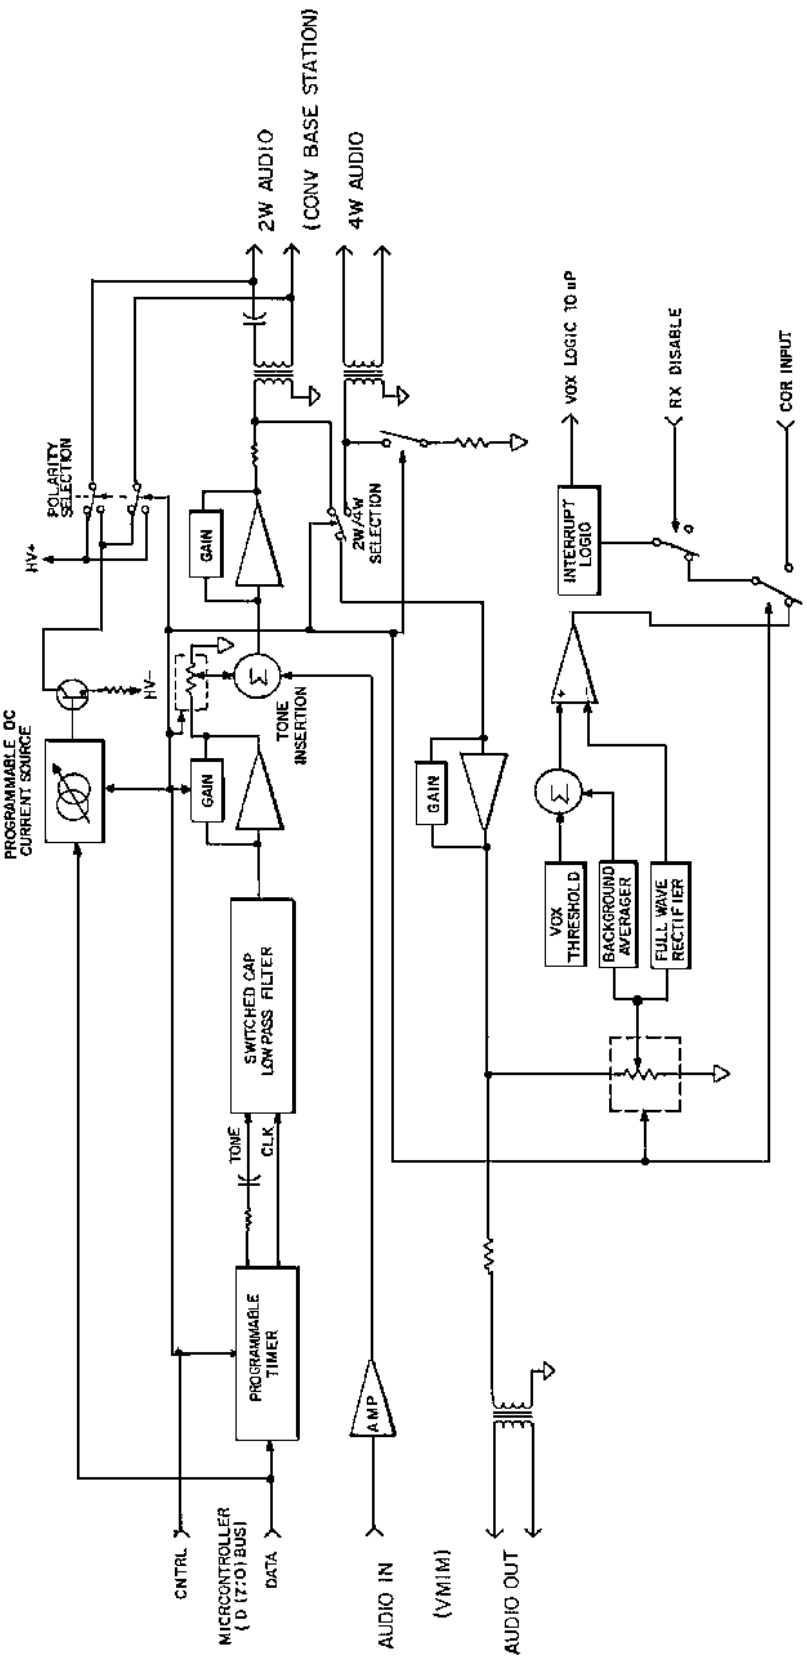

Figure 3 -Single Circuit For Processing A Single Channel Through The CI Board Of The CIA
Conventional Interface Board 19D903324G1 consists of four (4) identical audio processing circuits and a control circuit. For the sake of simplicity, only one audio processing circuit will be analyzed. Each audio processing circuit consists of a programmable DC current source, a tone generation circuit, audio interface and voice operated circuits (VOX). The audio interface circuits consists of amplifiers for audio inputs and audio outputs. Figure 3 is a detailed diagram of a single circuit for processing a single channel through the CI board of the CIA.